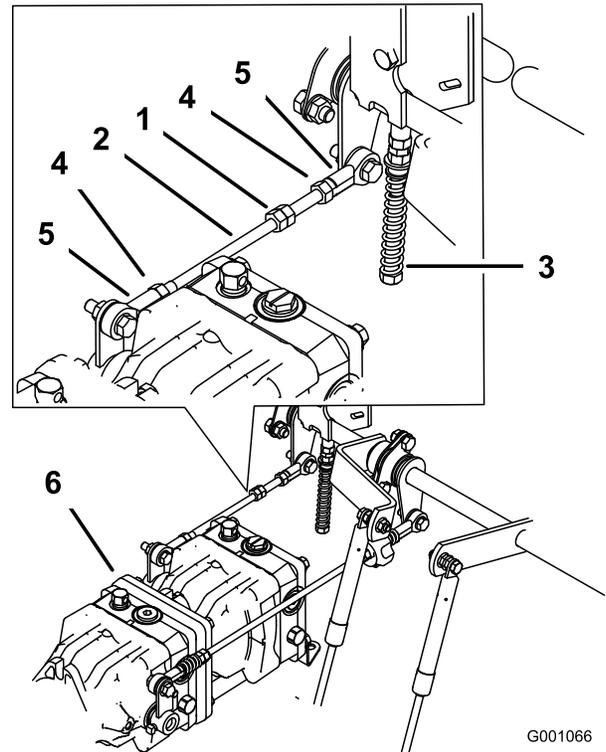

Figure 100
- Loosen the locknuts at the ball joints on the pump control rod (Figure 100).
- Adjust the pump rod length by rotating double nuts on rod, in the appropriate direction, until wheel is still or slightly creeps in reverse (Figure 100).
- Tighten the locknuts at the ball joints (Figure 100).